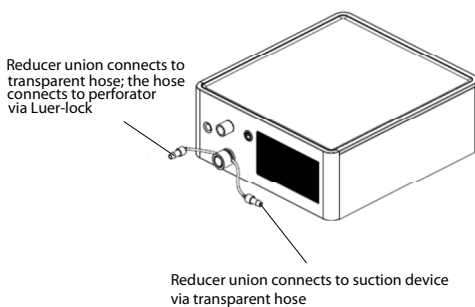

Figure 4-12 Connection diagram of the suction tube
3. Clip the slim tube into the groove of the smoke exhaust control valve on the insufflator's front panel. To prevent the pipe fitting from collapsing, clip the middle of the $\Phi 5$ slim tube into the pinch valve and avoid twisting the suction tube. As shown in Figure 4-12.